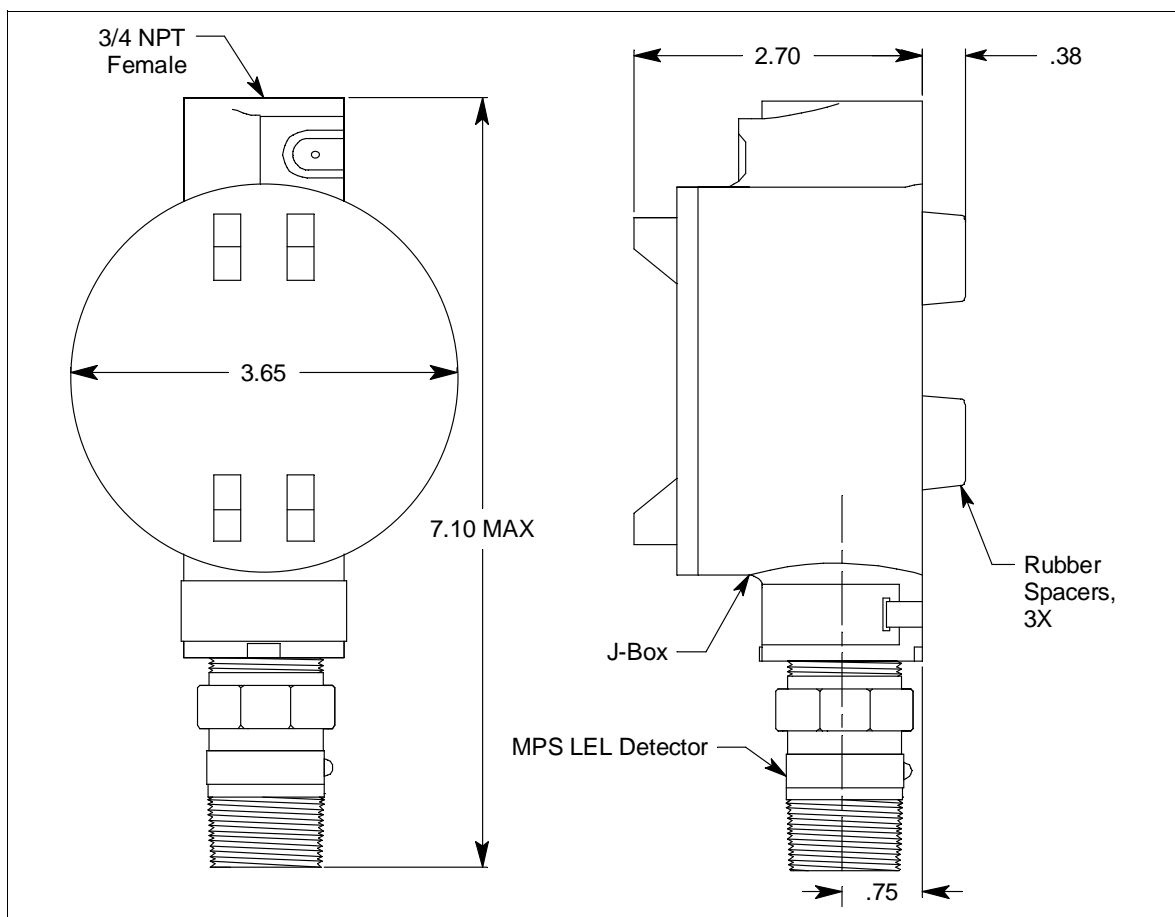

Figure 2: Mounting the Combustible Gas Detector
2. At the selected mounting site, hang or mount the junction box with the detector facing down (see Figure 2).